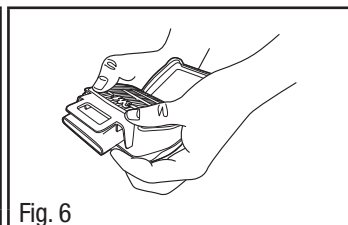

Fig. 6
2. Align the larger half of the retainer with the back (flat side) of the cartridge. Using both hands, press the retainer onto the cartridge, ensuring you press on all four corners of the cartridge/filter retainer (Fig. 6). The filter retainer has touchpoint indicators on each corner. You should hear the retainer snap into place.